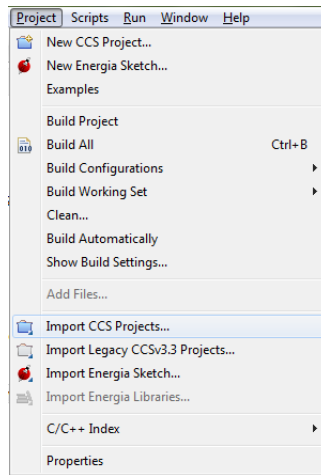

Figure 2 Import CCS Projec
- Run the CCS program and from the 'Project' tab select 'Import CCS Project'. (Figure 2)